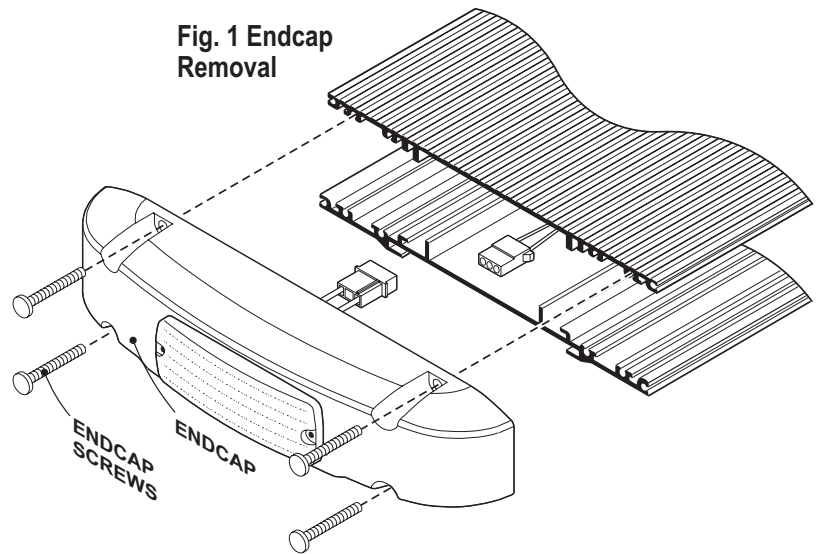

Fig. 1 Endcap Removal
1. Disconnect the unit from power and remove the endcaps. Remove the 4 endcap screws, endcap and gasket from both sides of the lightbar base. If you have alley lights, they must be unplugged also (Fig. 1).